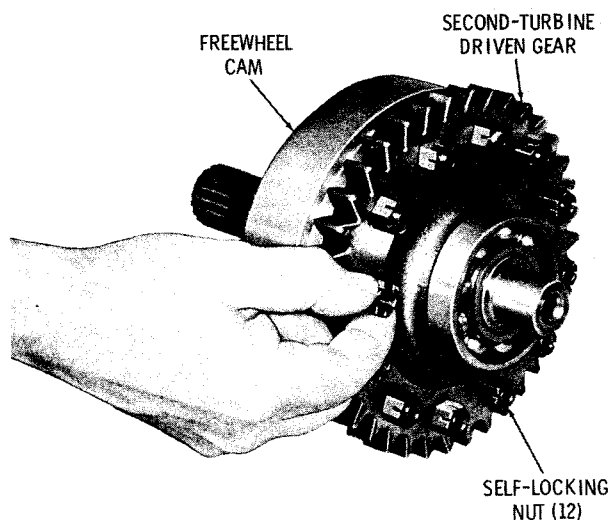

Fig. 6-9. Installing self-locking nut onto freewheel cam bolt
(6) Secure the assembled parts with twelve self-locking nuts (fig. 6-9). To prevent rotation of the bolt heads, use the tool shown in figure 4-3, or an open-end wrench and tighten the nuts to 41 to 49 pound feet torque.